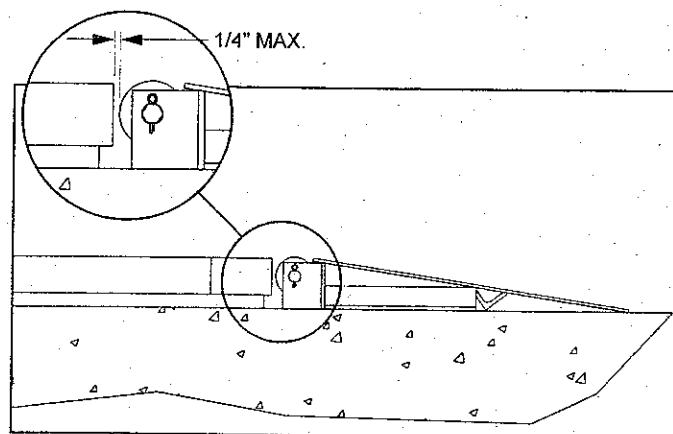

Figure 3 - Ramp Spacing
8. If a ramp is to be used with the lift, it should be installed with a clearance of 1/8" to 1/4" between the roller and the platform of the lift (see Figure 3). The ramp should be aligned with the end of the platform and anchored to the concrete using the same procedure detailed above.